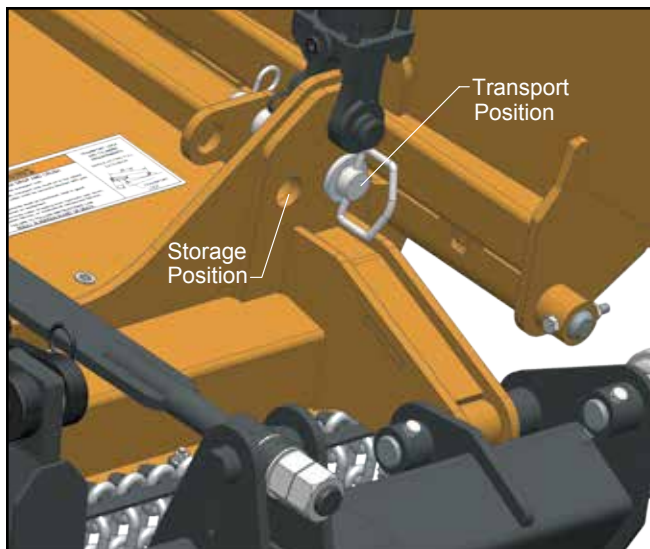

Figure 3. Transport Lock Pin
5. Lower cylinder against lock-up pins (Figure 3).